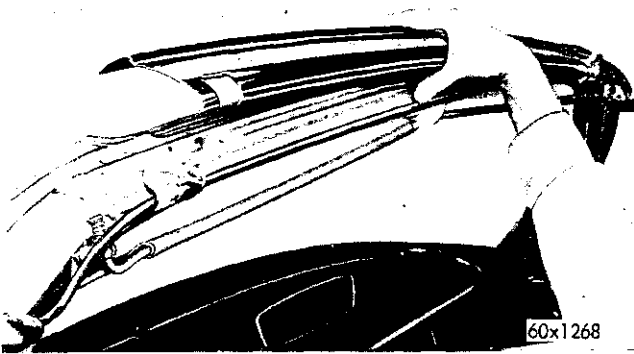

Fig. 29—Removing the Windshield Header Moulding
(3) Remove the windshield wiper arms and blades.
(4) Remove the upper header moulding, attaching screws and remove the moulding.
(5) Pry the header moulding up slightly to clear the moulding from the weatherstrip then disengage from the header and remove, as shown in Figure 29.